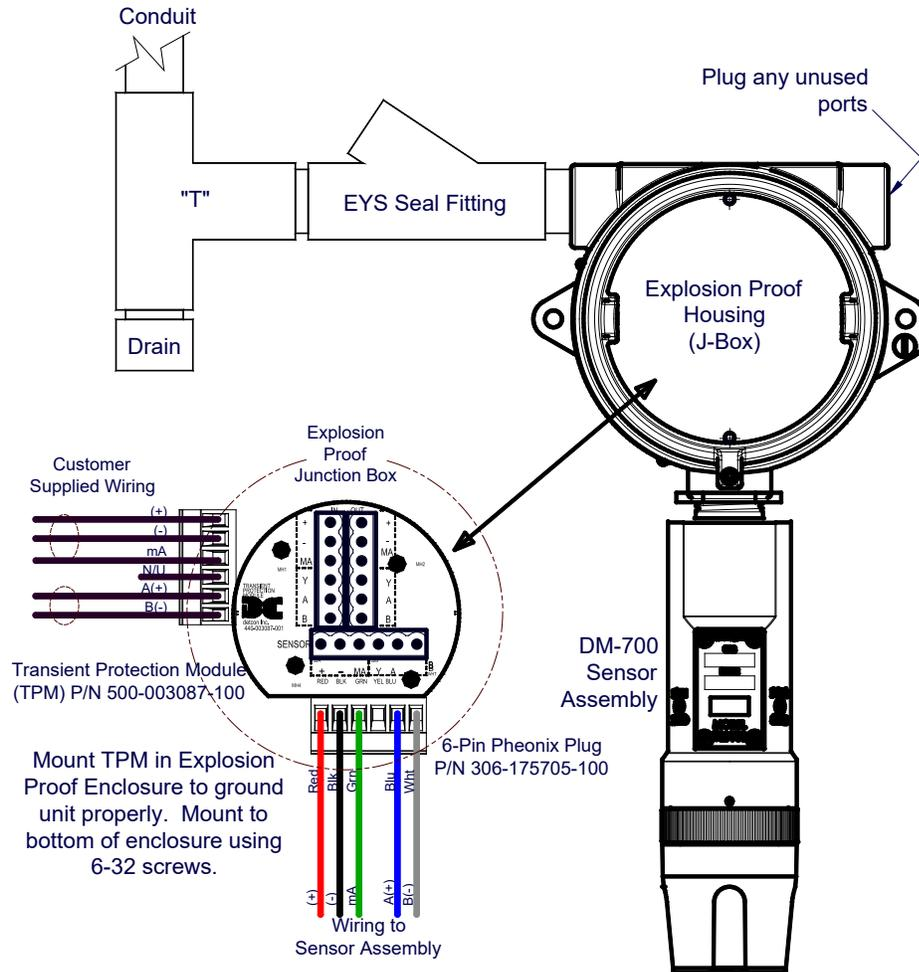
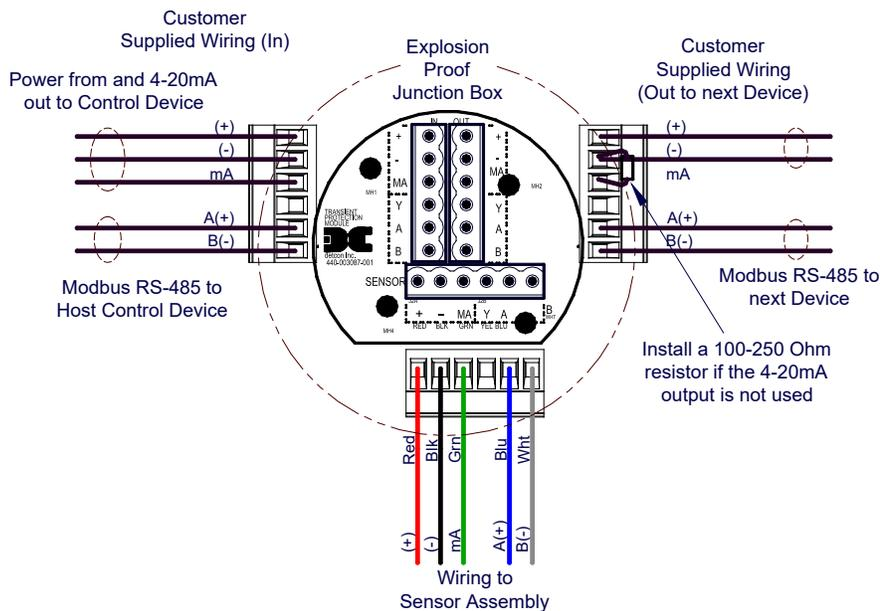

Figure 12 Typical Installation
Figure 13 Sensor Wire Connections
NOTE: All installations of the gas sensor should point straight down (refer to Figure 12). Improper sensor orientation may result in false readings and permanent sensor damage.
Proper electrical installation of the gas sensor is critical for conformance to Electrical Codes and to avoid damage due to water leakage. Refer to Figure 12 and Figure 13 for proper electrical installation.
NOTE: If a conduit run exits the secondary port, repeat the installation technique shown in Figure 12.
In Figure 12, the drain allows water condensation inside the conduit run to safely drain away from the sensor assembly. The electrical seal fitting is required to meet the National Electrical Code per NEC Article 500-3d (or Canadian Electrical Code Handbook Part 1 Section 18-154). Requirements for locations of electrical seals are covered under NEC Article 501-5. Electrical seals also act as a secondary seal to prevent water from entering the wiring terminal enclosure. However, they are not designed to provide an absolute water-tight seal, especially when used in the vertical orientation.
NOTE: For products utilizing the aluminum junction box option, the conduit seal shall be placed at the entry to the junction box (see Figure 12 as an example). For products utilizing the stainless steel junction box option, the conduit seal shall be placed within 18” of the enclosure. Crouse Hinds type EYS2, EYD2 or equivalent are suitable for this purpose.
- Observing correct polarity, terminate the 3-conductor 4-20mA field wiring (+, -, mA) to the sensor assembly wiring in accordance with the detail shown in Figure 13. If the 4-20mA output is not used, install a 100-250Ω resistor between the mA and (-) terminals on the Transient Protection Module.
- If applicable, terminate the RS-485 serial wiring as shown in Figure 13. Use the second plug (Out) as termination point on the customer side to facilitate a continuous RS-485 serial loop.